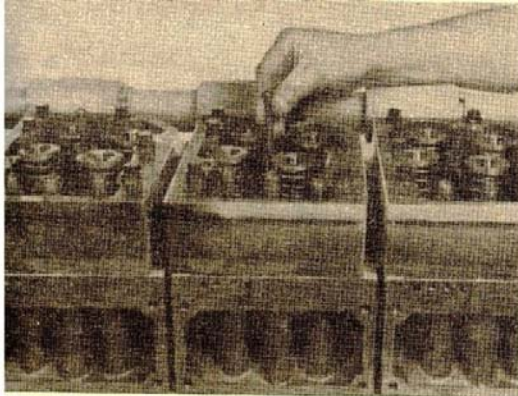
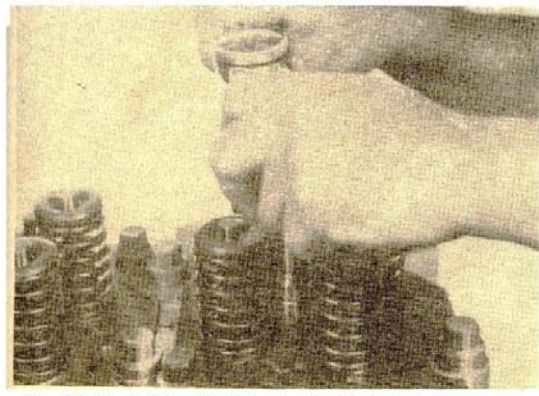

Fig. 14-59, Install the injector plunger link
Fig. 14-60, Tighten the injector hold down capscrews
5. Carefully insert the injector plunger link. Fig. 14-59. Tighten the hold down capscrews alternately and evenly to 11 to 13 ft-lbs (15 to 18 Nom) torque. Fig. 14-60.